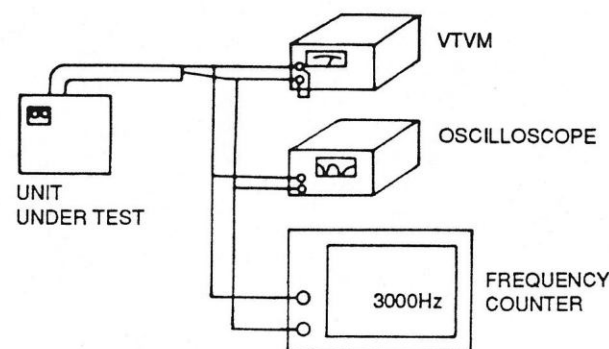

Fig. 8.
- Connect the equipment as per Fig. 8 to adjust the tape azimuth with test tape (recorded at 8KHz MTT-113CN).
- a) Connect the equipments as Fig. 8 to adjust the tape speed with test tape [recorded at 3KHz, MTT-111N].